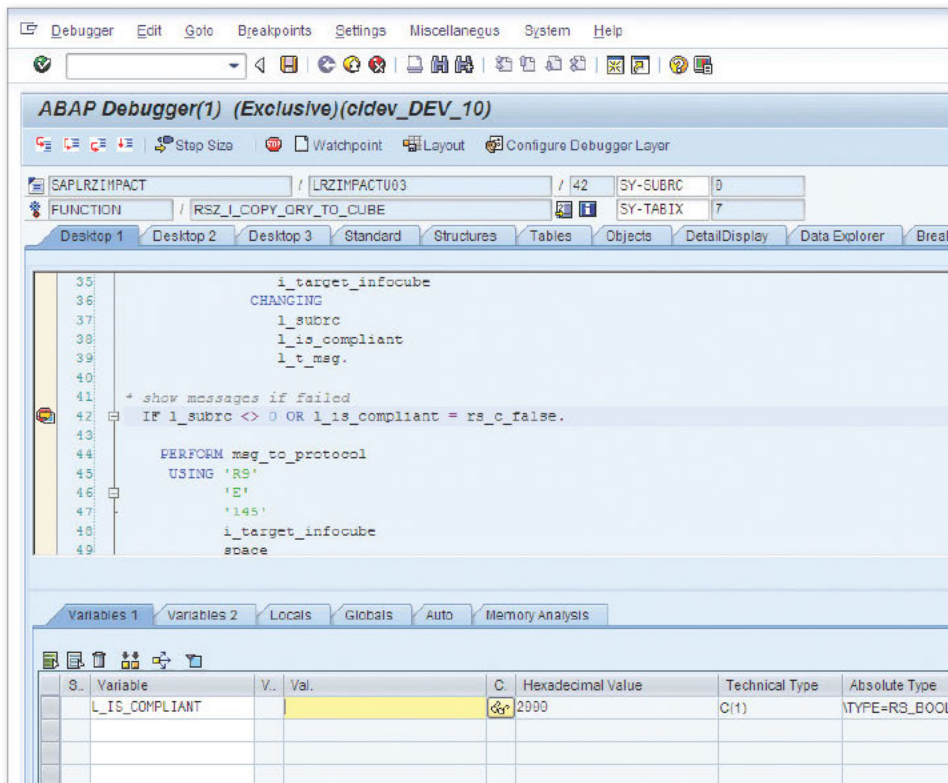

Figure 2 ABAP Debugger Showing `L_IS_COMPLIANT`
6. Double-click on `L_IS_COMPLIANT` to make it show up in field names below the code (see Figure 2). `L_IS_COMPLIANT` in the preceding code is checking for the matching structures between the InfoCubes, and the system will enforce a hard error if the structures are not compliant.